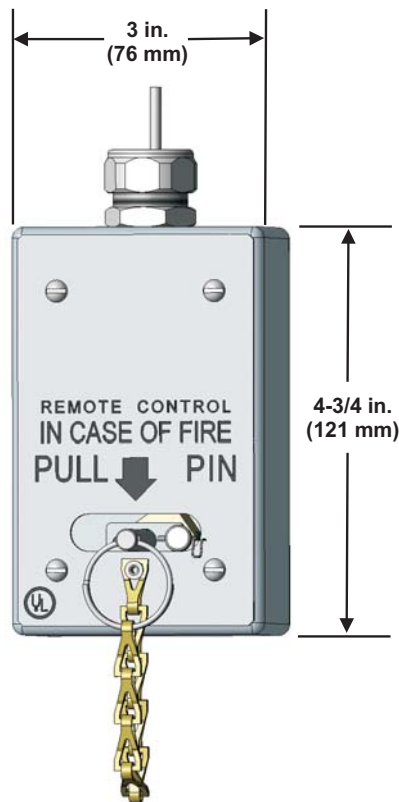

Figure 2-35. Surface Mounted End-of-Line Remote Manual Release, P/N 9197463
- End-of-Line Surface Mounted Remote Manual Control, P/N 9197463 (Figure 2-35)